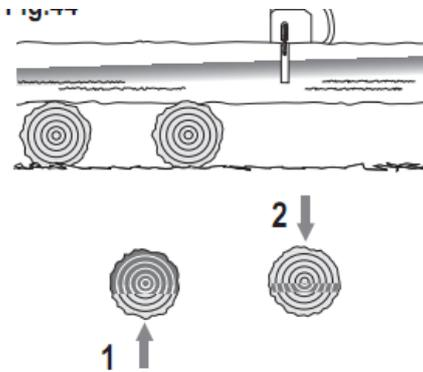

Fig.40
- 1) Start with a cut from below to 1/3 of the diameter (fig.40) with the top part of the bar.